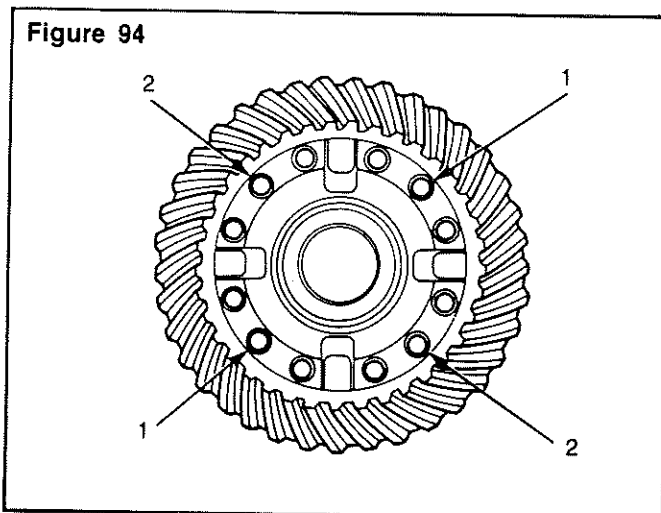

Figure 94
A. Install four capscrews* and washers* or bolts*, nuts* and washers* into the case halves. The distance between the fasteners **MUST** be equal. Tighten the fasteners to the correct torque value in a pattern opposite each other. **Figure 94** and see torque chart on page 65.